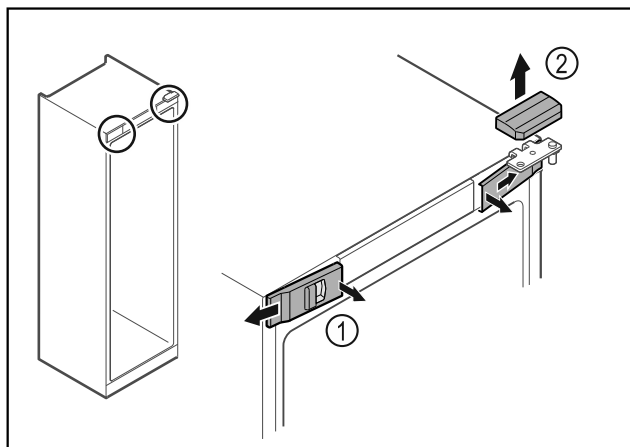

Fig. 6
- Unlatch the front covers Fig. 6 (1) on the inside and remove them sideways.
- Lift off the upper cover Fig. 6 (2).